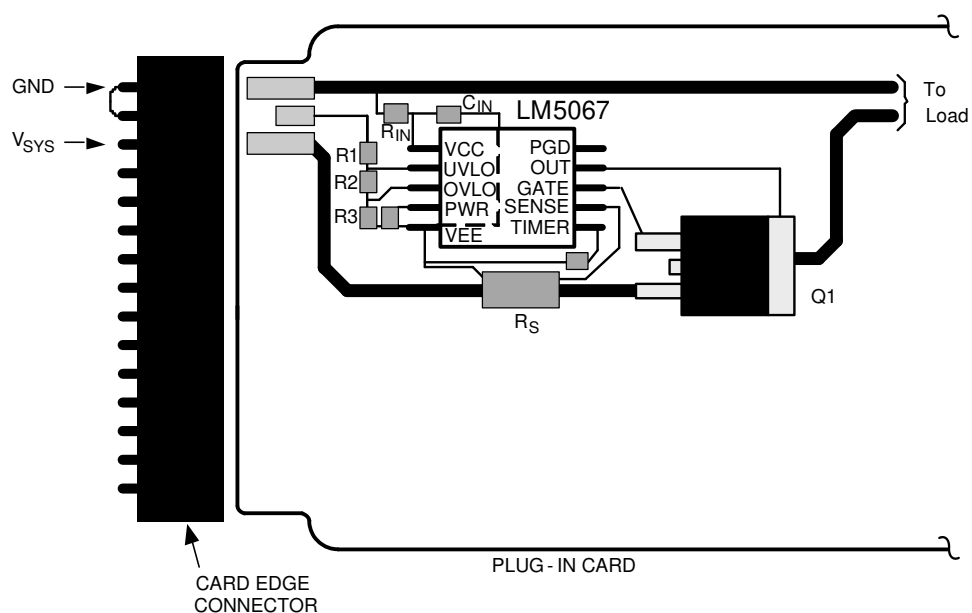

Figure 11-1. Suggested Board Connector Design
- The board's edge connector can be designed to shut off the LM5067 as the board is removed, before the supply voltage is disconnected from the LM5067. In Figure 11-1 the voltage at the UVLO/EN pin goes to VEE before V_{SYS} is removed from the LM5067 due to the shorter edge connector pin. When the board is inserted into the edge connector, the system voltage is applied to the LM5067's VEE and VCC pins before voltage is applied to the UVLO/EN pin.